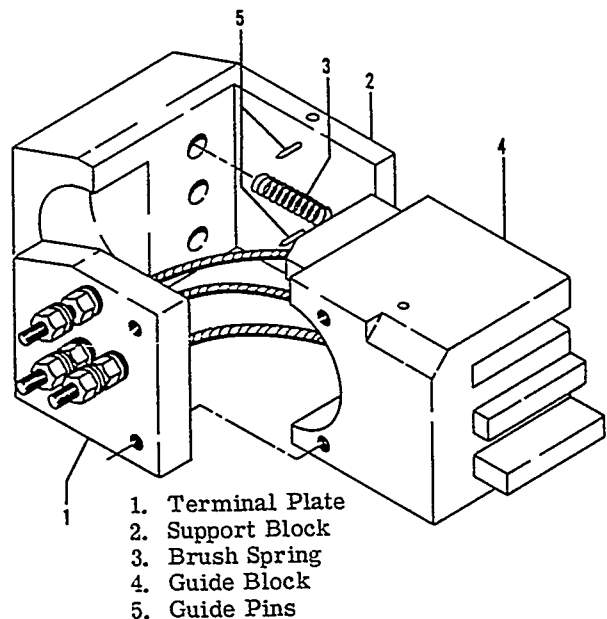

Figure 11-6. Deicer Brush Block Assembly
- Disassemble the brush block (Figure 11-6) by removing the screws attaching the terminal plate to the brush block, then separate the brush block by pulling the guide block approximately 1/4 inch toward the terminals to disengage the guide pins.